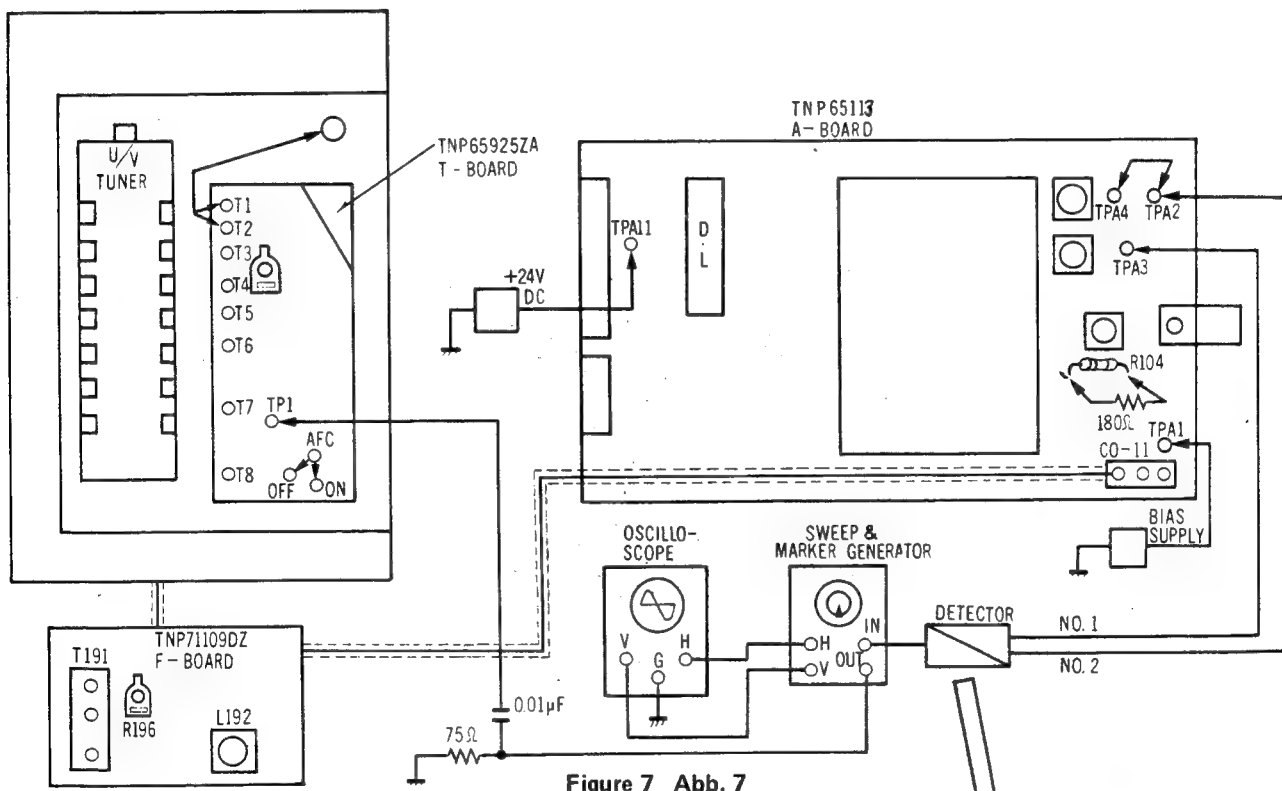

Figure 7 Abb. 7
**Preparation Step** (See figure 7)
4. Connect oscilloscope in figure 7.